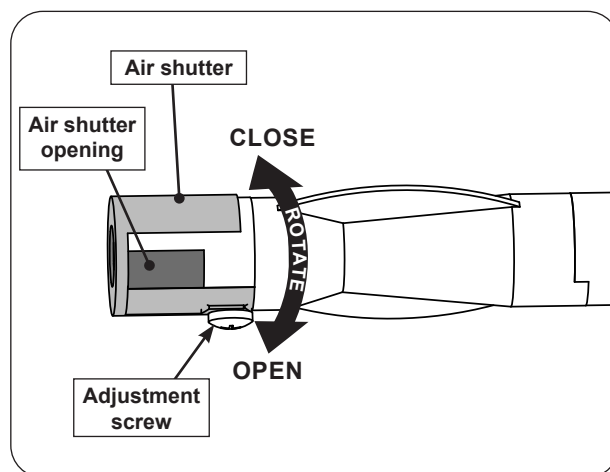

Fig. 42-2 Side burner air shutter adjustment detail
2. Loosen the adjustment screw with a screwdriver, then carefully rotate the shutter to open or close it. See Fig. 42-2 for details.